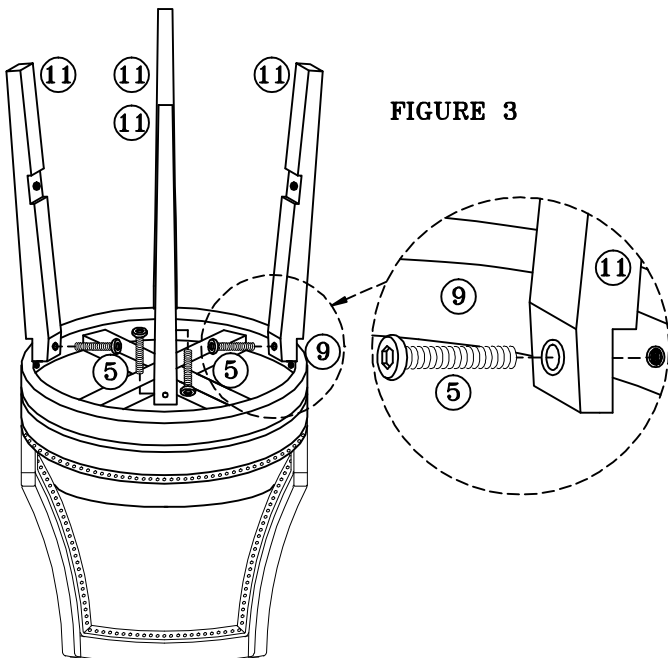
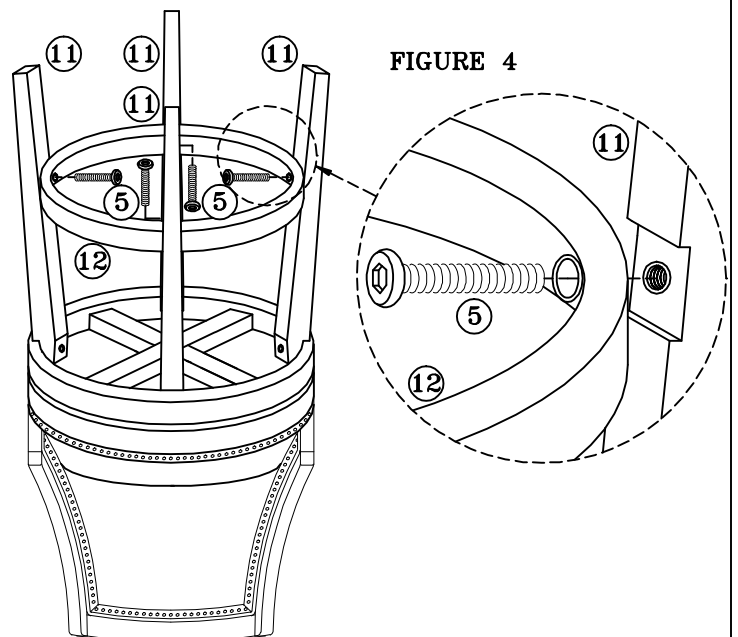

FIGURE 3
FIGURE 4
- Align pilot holes on legs (11) with threaded inserts on top ring (9). SEE FIGURE 3
- Secure legs (11) with screw (5). Hand tighten screws. DO NOT TIGHTEN SCREWS COMPLETELY
- Align pilot holes on foot rest (12) with threaded inserts on legs (11). SEE FIGURE 4
- Secure foot rest (12) with screw (5). Use Allen wrench (7) to tighten screws.
- NOW TIGHTEN SCREWS (5) FROM STEP 3 (FIGURE 3)